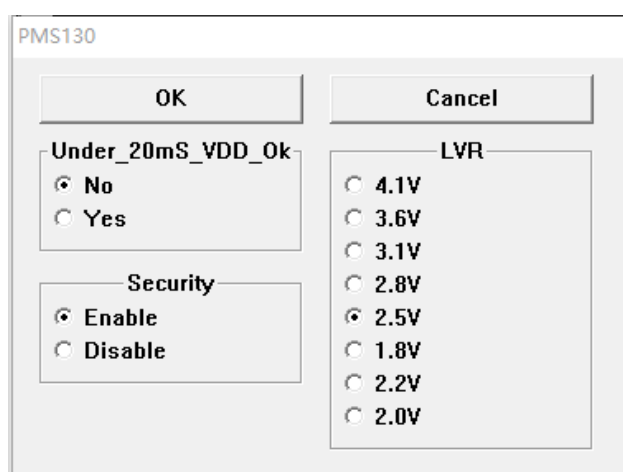

Fig.3-18 Code\_Option window
5. Click  or press the single-step key F11 to open the **Code\_Option** and set program parameters, as shown in figure 3-18.